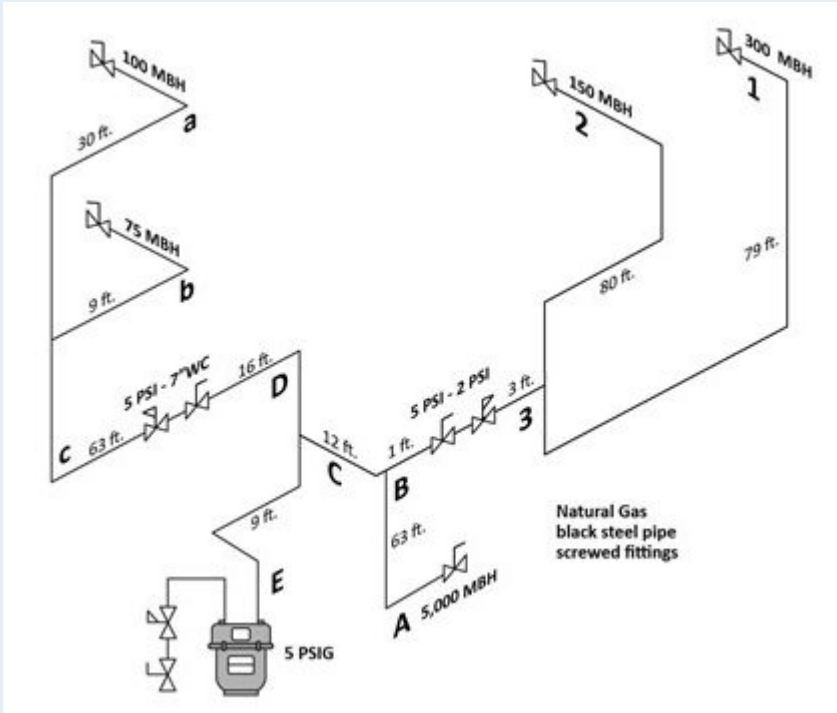

Figure 4
3. Size the drawing in Figure 4 and show all calculations.
- Figure 4 by Camosun College is licensed under a CC BY 4.0 licence (<https://creativecommons.org/licenses/by/4.0/>).